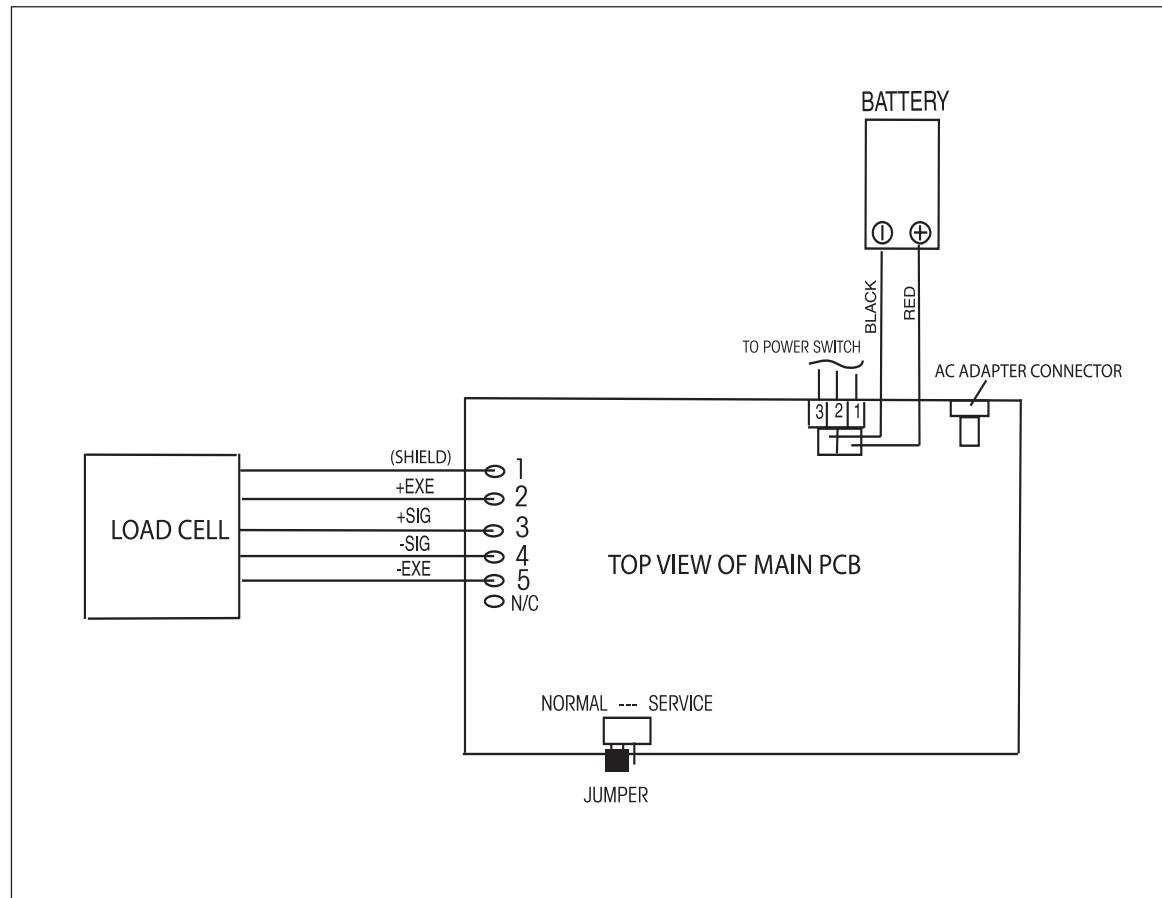

Figure 3-2. EC Series Scales Interconnection Diagram.
2. Refer to Figure 3-2 and record color code and position of the wires from the Load Cell.
2. Load Cell solder contacts can be used as measuring points. See Figure 3-2.
- Refer to Figure 3-2 and measure the voltages on points 3 and 4, +SIG and -SIG points. These measurements represent the output of the Load Cell. Repeat measurements at 50% and full scale capacities. See Table 3-3 for typical readings.
6. Refer to Figure 3-2, Interconnection Diagram which illustrates the interconnections to the Main PC Board and is shown as a top view.
9. Measure incoming power from the AC Adapter connector shown in Figure 3-2. The voltage should read above 6 Volts dc with power on.
4. Unsolder the Load Cell cable from the Main PC Board. Refer to Figure 3-2 for location.